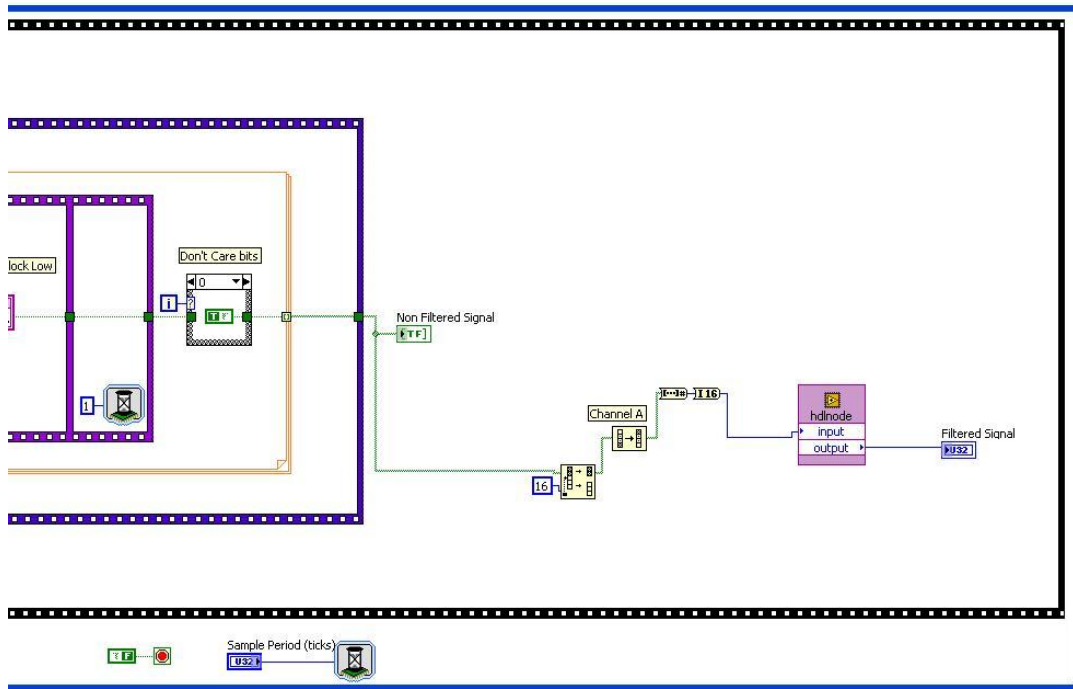

Figure 29: Final ADC VI
13. Wire the **output** terminal on the HDL Interface Node to an indicator. Label the indicator “Filtered Signal”. Part of the final ADC block diagram should look similar to Figure 29.